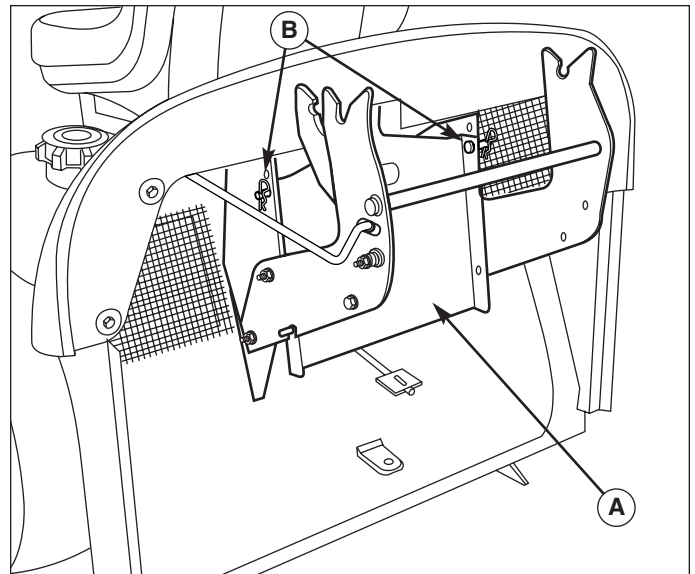

Figure 7. Deflector Plate
6. Install the back plate (A, Figure 7) and secure with clevis pins and hair pin clips (B).